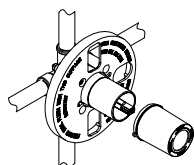

Fig. 3
- Remove the Tub&Shower cap before installing escutcheon (see Fig. 3).